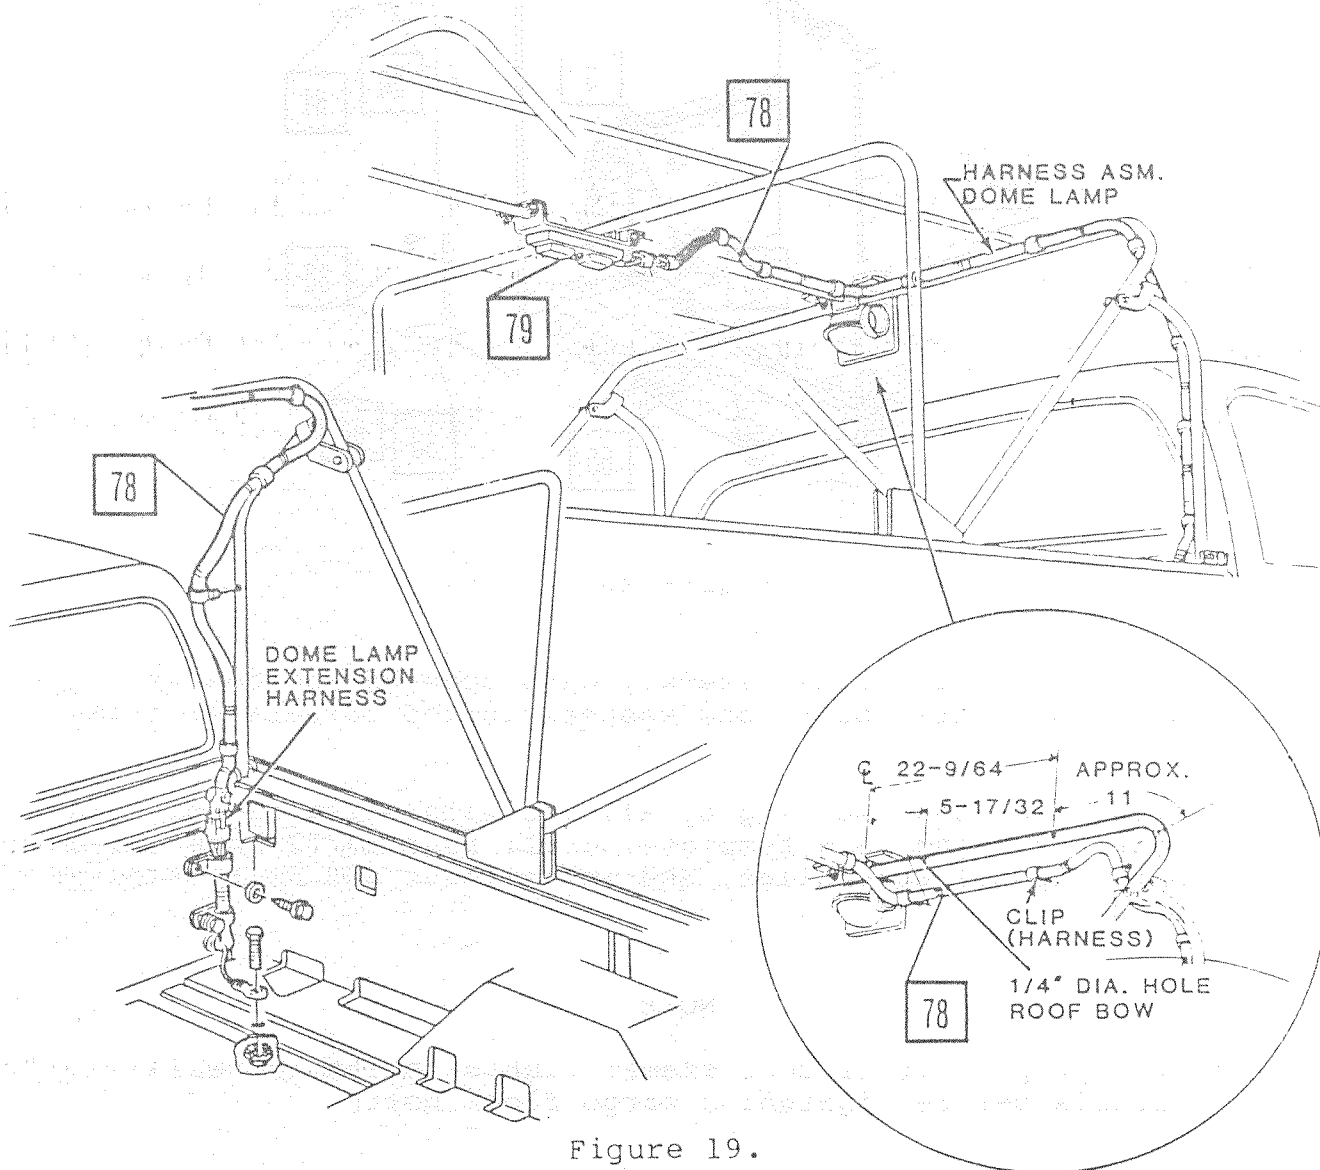

Figure 19.
67. Install dome lamp harness assembly to dome lamp and snap clips on harness into center tubular support holes (Figure 19.).
68. Using clips on harness as template, drill 1/4 inch holes in bow assemblies along front, and attach harness clips into bows and connect existing harness (Figure 19.).